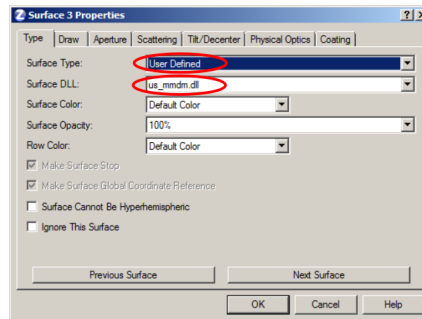

Figure 2: Settings in “Surface type” dialog
1. In the lens parameter table double-click with the left mouse button on the surface type field to invoke surface type dialog. In the field “Surface type” select “User-defined” and in the field “File name” choose “us\_mmdm.dll”. Click “OK” to confirm (Fig 2).